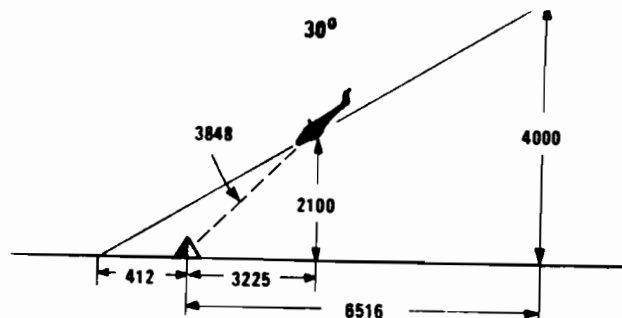

Figure 6-8
(1) Wind offsets are only 1/3 as much as those used in dive bomb.
(2) The main concerns are where the rocket is pointed and what the "G" loading is at release. If the pipper arrives at the release aimpoint within 200 - 300 feet of the release altitude, do not attempt to hold the pipper on the target through negative "G" waiting for the release altitude. Firing slightly high will not cause a large error; but bunting the aircraft will. So meet the parameters as closely as possible, and a good sight picture should still produce a good rocket score. (See Figure 6-8) for a typical Pass).
(3) Recovery. As soon as the rocket is fired, begin a 4 "G" wings level pull to avoid descending below the minimum altitude. As the nose of the aircraft comes toward the horizon. Turn the Master Arm Switch OFF (after each release). As the nose of the aircraft comes above the horizon, look for the aircraft immediately ahead in the flight and initial a turn, adding power to climb back to downwind leg.